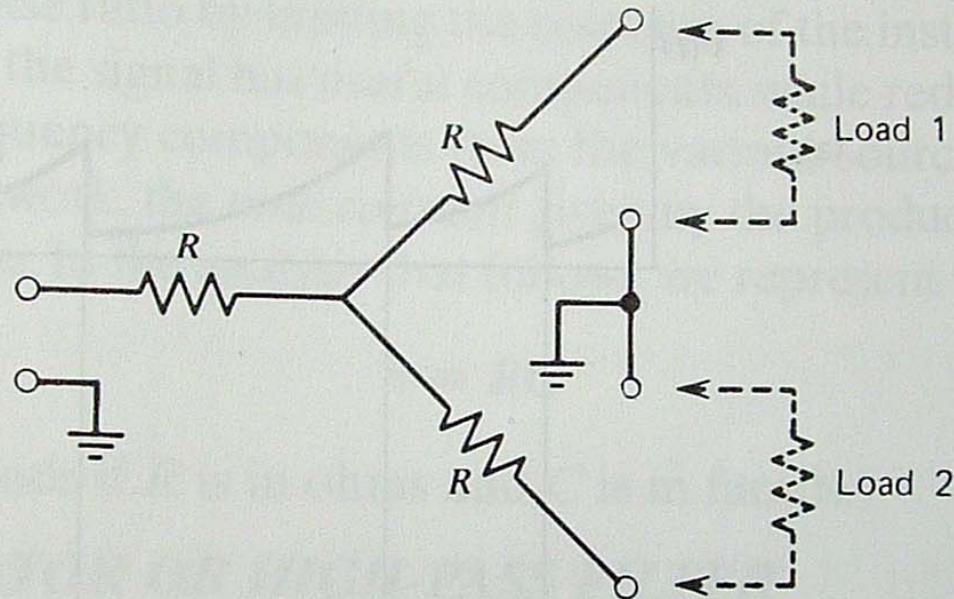

Figure 16.6 A symmetric pulse splitter that can be used to drive two loads while maintaining matched impedance levels.
- Shown in Fig 16.6, one chooses an R to match the impedances, (i.e. 50Ω splitter has 250Ω loads with $R = 16.6\Omega$)